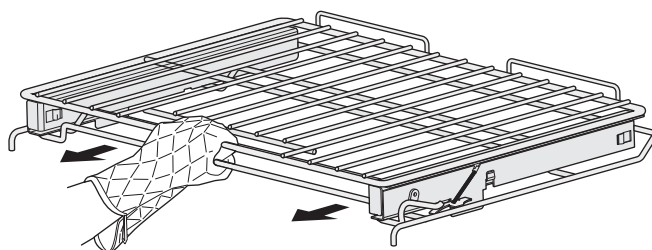

Figure 20: Removing the oven rack
2. While holding both sections, pull the glide rack out of the oven until the stop position is reached (Figure 20).